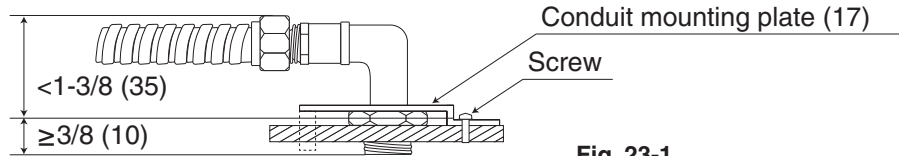
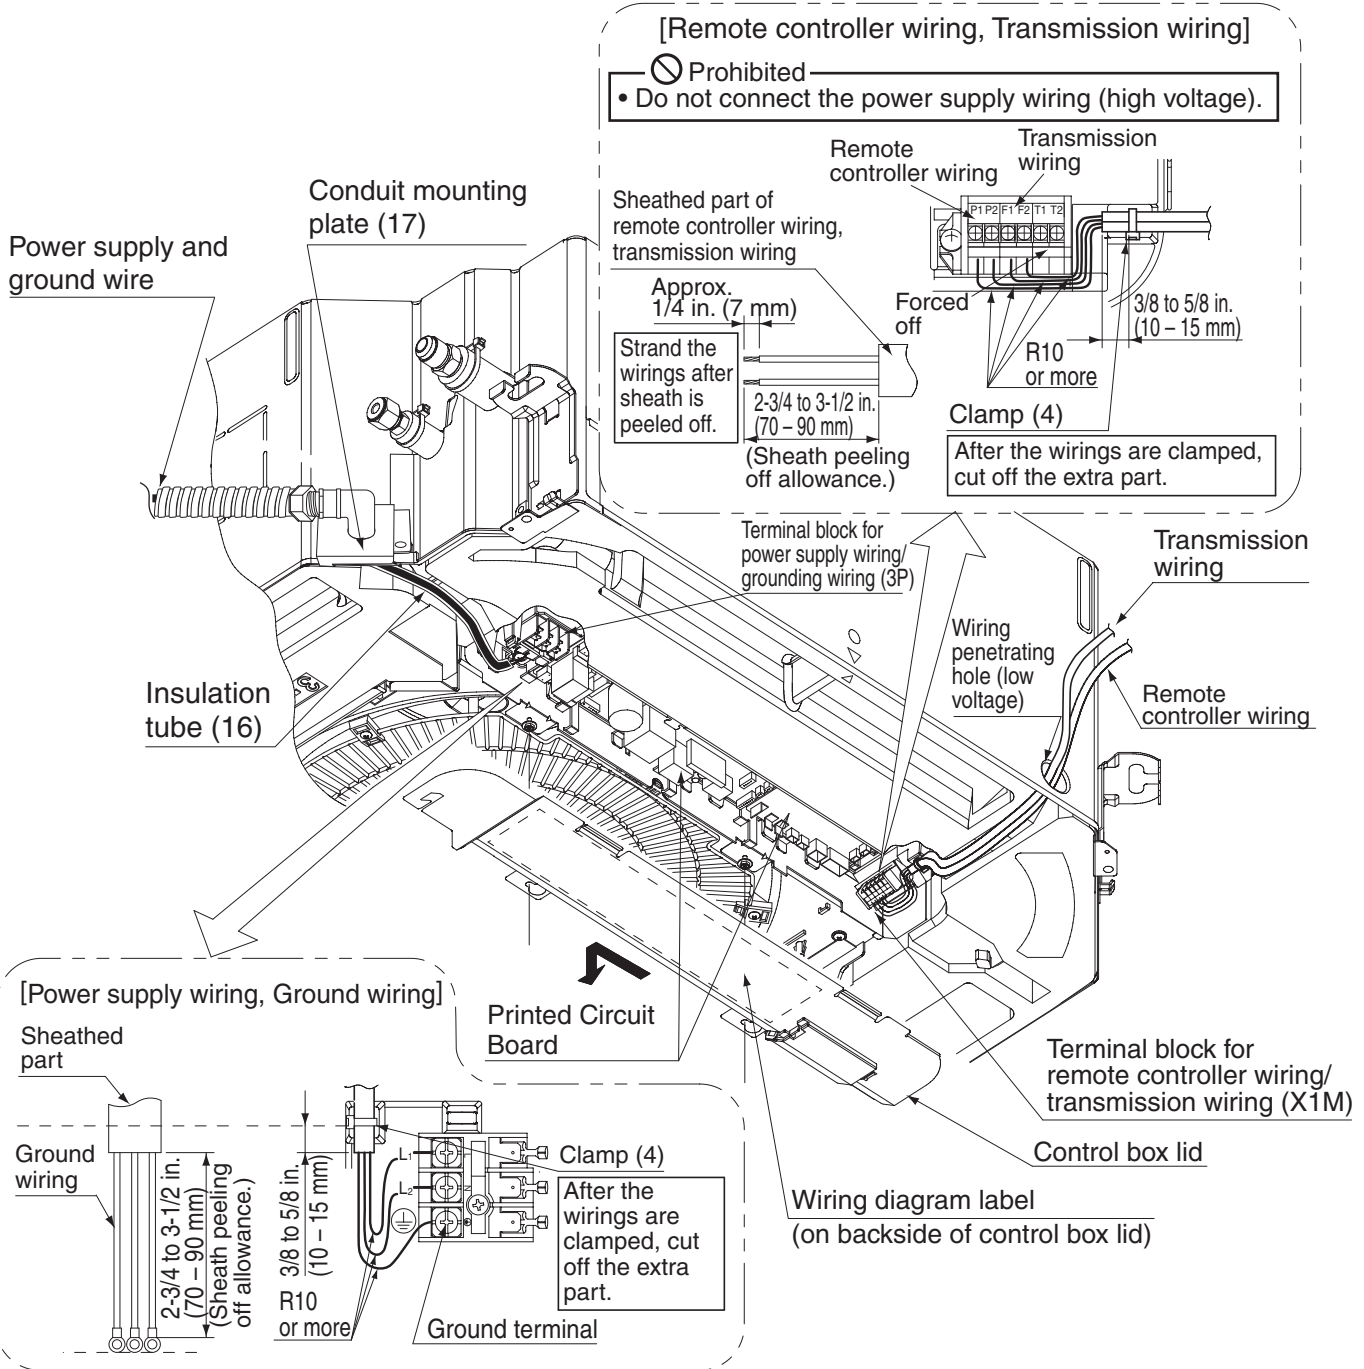

Fig. 23-1
Fig. 23-2
Pass the power supply wire through the attached insulation tube (16) between the outlet of conduit and the power supply terminal, and bind them together with the attached clamp (4). **(Refer to Fig. 23-2)**
Use a pair of conduit mounting plates (17) to connect a conduit to the unit as shown **Fig. 23-1**. After connecting the power supply wiring to [L₁ · L₂] on the power supply terminal block (X2M) and the ground wiring to the ground terminal, clamp them near the terminal block using the attached clamp (4). **(Refer to Fig. 23-2)**
- Pull the wiring through the wiring penetrating hole (low voltage). After connecting the remote controller wiring to [P1 · P2] and the transmission wiring to [F1 · F2] on the terminal block (X1M), clamp them near the terminal block using the attached clamp (4). **(Refer to Fig. 23-2)**
- Use a 90° elbow type of conduit with dimensions **Fig. 23-1** to prevent it from hitting the swing motor housing of decoration panel.